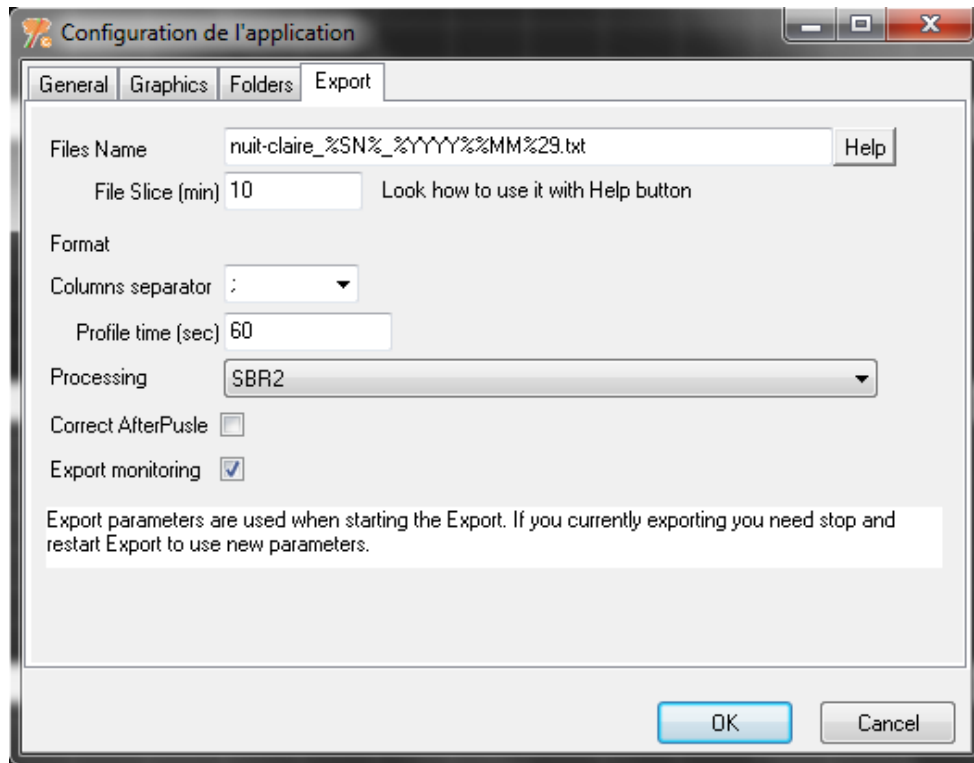

FIGURE 13 : CONFIGURATION, EXPORT TAB WITH EXAMPLE FOR A FILE POUR UN FICHIER TOUTES ALL 10 MINUTES
- "Export" (figure 13): inside this tab, we define the information of the export file such as its name, size, data type ...